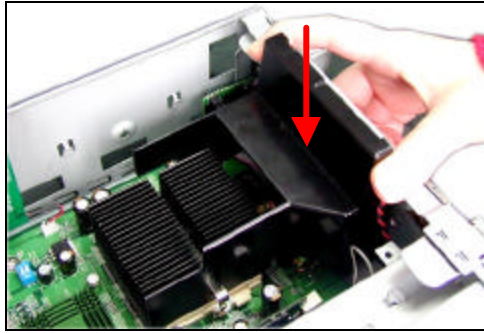

Figure 3.4.3
- v. Slide in the Air Flow Guide (AFG) into the Sabre unit frame, as shown in [Figure 3.4.3] below.